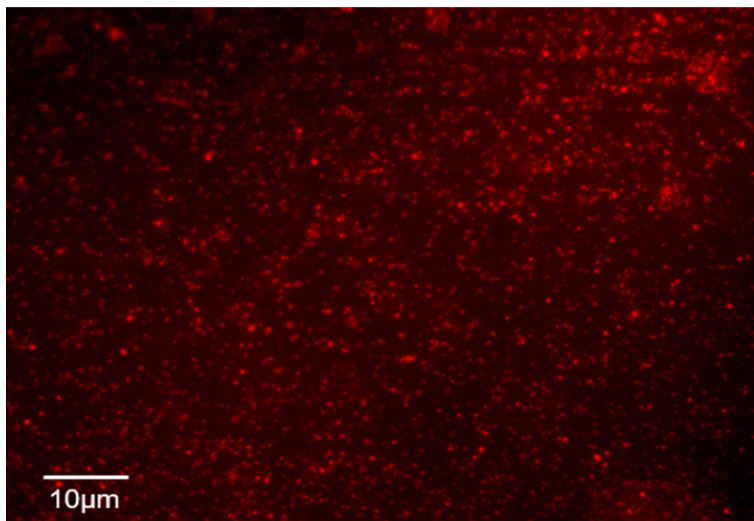

Figure 2. Confocal fluorescence microscopy of liposomes
6. Confirm that the liposome is formed using fluorescence microscopy (Figure 2).